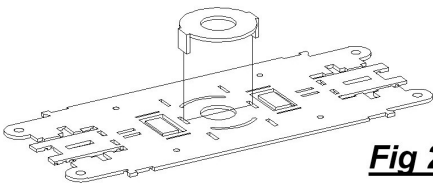

Fig 2
Remove the main bolsters (1) and central pivot bosses (2) from the etched sheet. Fold the two end tags on the pivot bosses at 90° and insert in the slots on the unfolded main bolsters from the plain side (*Fig 2*); lightly splay the tags outwards from the pivot hole to retain fully in position. Make sure that you have the pivot boss on the surface that will be the outer surface of the box; flux and solder from the tag side. Wash off flux residues, cut off the projecting tags, and sand / file flush.